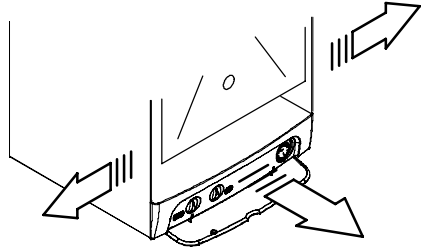

Fig. 6.14
- 4 Remove the side panels or move the lower part of the side panels as indicated in Fig. 6.14 and pull the control panel. When completely pulled out, the panel can rotate 45° downwards to facilitate the operations on the internal parts.